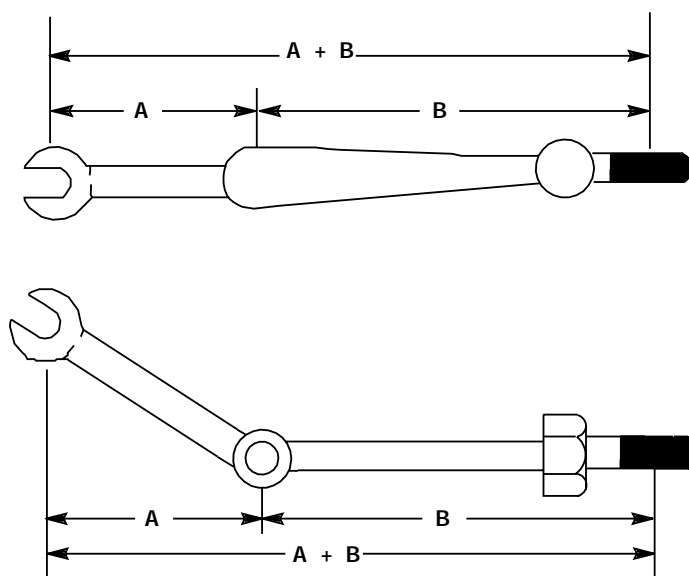

Figure 7-1. Extension Used When Total Length Exceeds Handle Length.
7-5. **USE OF AN EXTENSION ON A TORQUE WRENCH.** (See figure 7-1 thru 7-3). Whenever possible, the use of extensions on torque wrenches should be avoided; however, where the use of extensions is necessary torque wrench settings can be accurately calculated, as follows:
A - Extension length between center of broached ends measured as shown in figure 7-1 thru 7-3. Use the effective length of the extension
a. When wrenches are used similar to figure 7-1 the equation is: